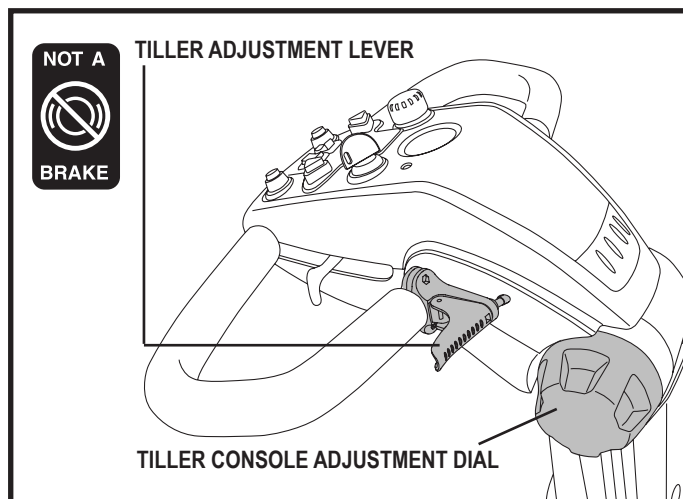

Figure 16. Tiller/Tiller Console Adjustment
1. While supporting the tiller, turn the tiller adjustment knob anticlockwise to loosen the tiller. **See figure 16.**
1. Loosen the adjustment dial (turn anticlockwise) and move the tiller console up or down to a comfortable riding position. **See figure 16.**